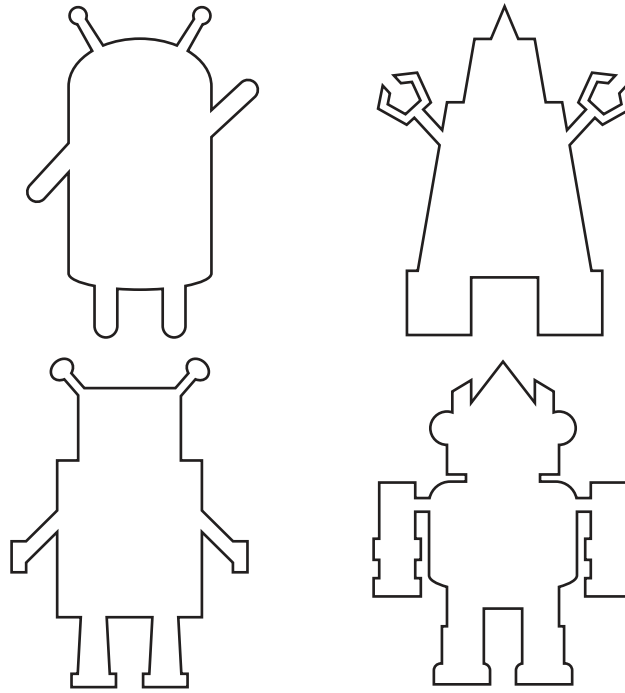

Fig. 8.1
- 8 Fig. 8.1 shows four shapes that could form the basis of a design for a freestanding slot-together robot to be used to promote a film called 'Robot Heroes'.